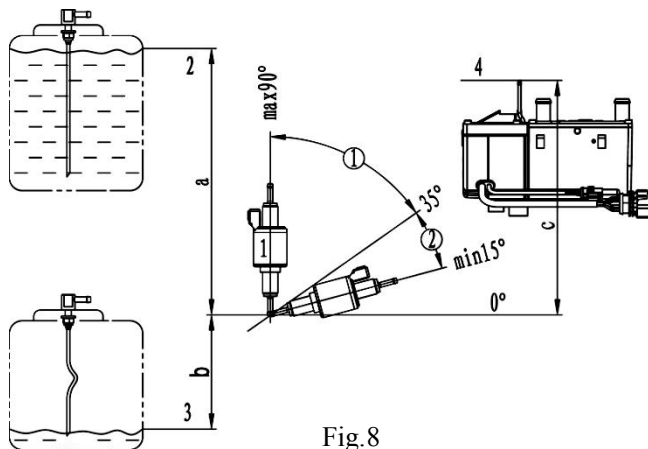

Fig. 8
protective rubber cover. The outlet of the fuel pump shall tilt upwards. The tilt angle can be selected from the range of  $15^{\circ} \sim 35^{\circ}$  (as shown in Fig. 8). When conditions permit, the fuel pipe between the fuel pump and the heater shall go up gradually.
4.5.3 Difference in elevation between the level of fuel and the fuel pump as well as the difference in elevation between the fuel pump and the fuel feeding port of the main equipment (see Fig.8) can produce pressure (or suction) in the fuel pipeline. So, these dimensions shall conform to the requirements as follows: